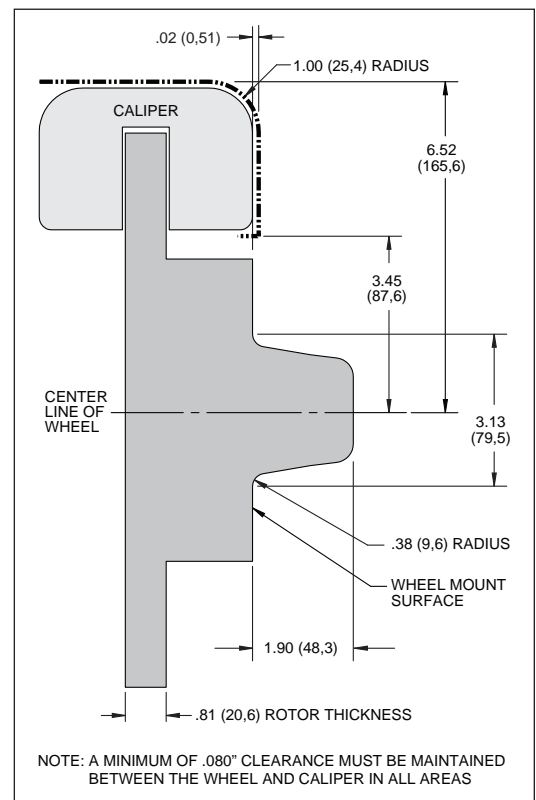

Figure 2. Wheel Clearance Diagram
- Verify wheel clearance using Figure 2.